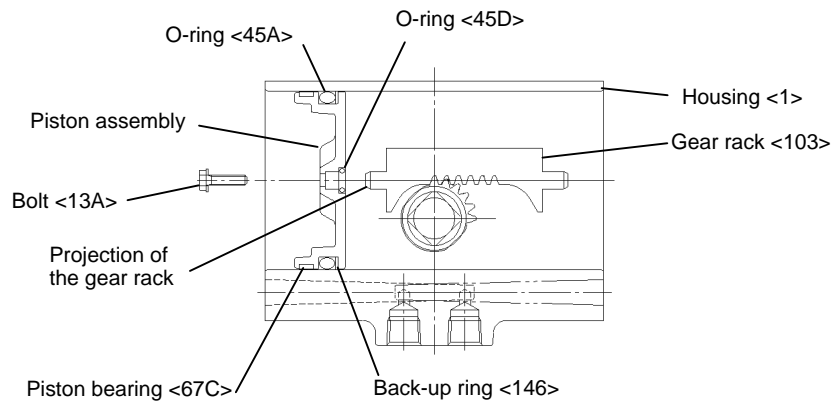

Fig.19
- (7) Lubricate the gear rack teeth and assemble it with the piston as follows: Mesh the first tooth of the pinion with the first space (bottom of tooth) of the rack, and insert the projection of the rack into the center hole of the piston. Temporarily assemble the piston and the rack with a hexagon headed bolt. Apply LOCKTITE No.262 or the equivalent to the bolt beforehand for secured assembly (Fig.19).